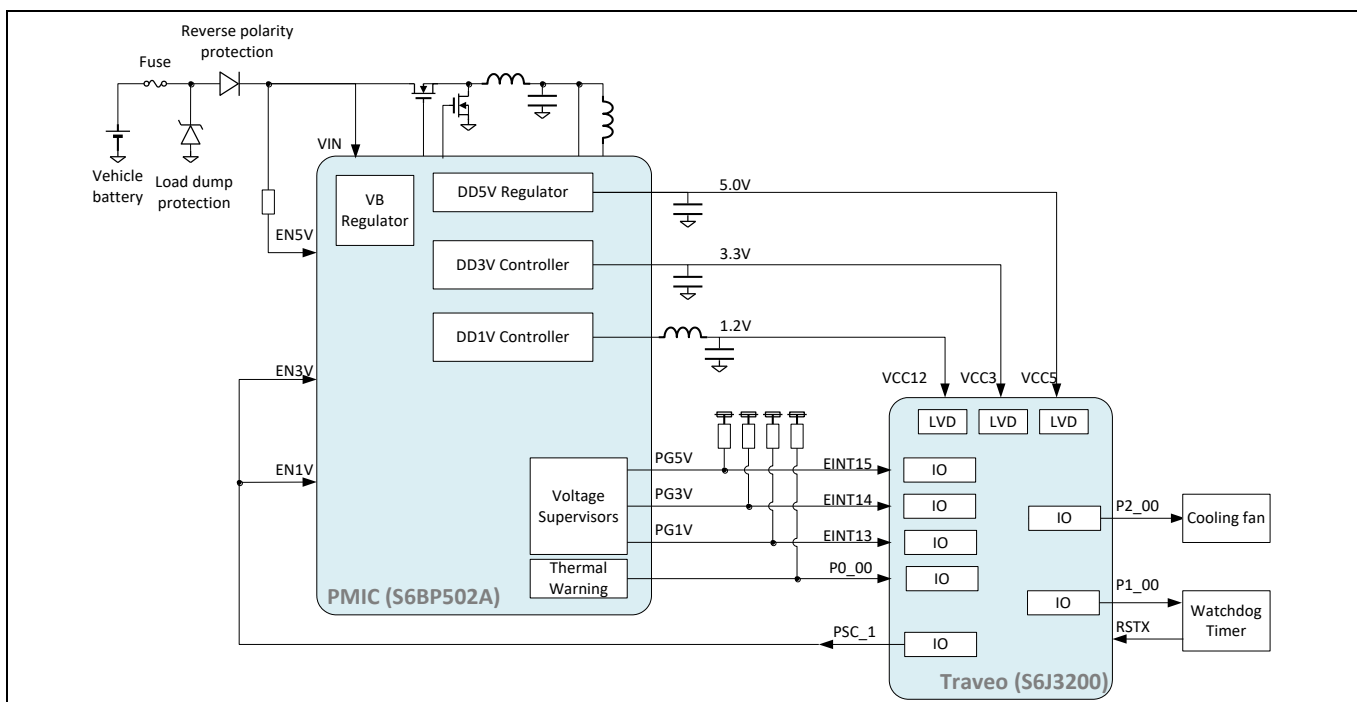
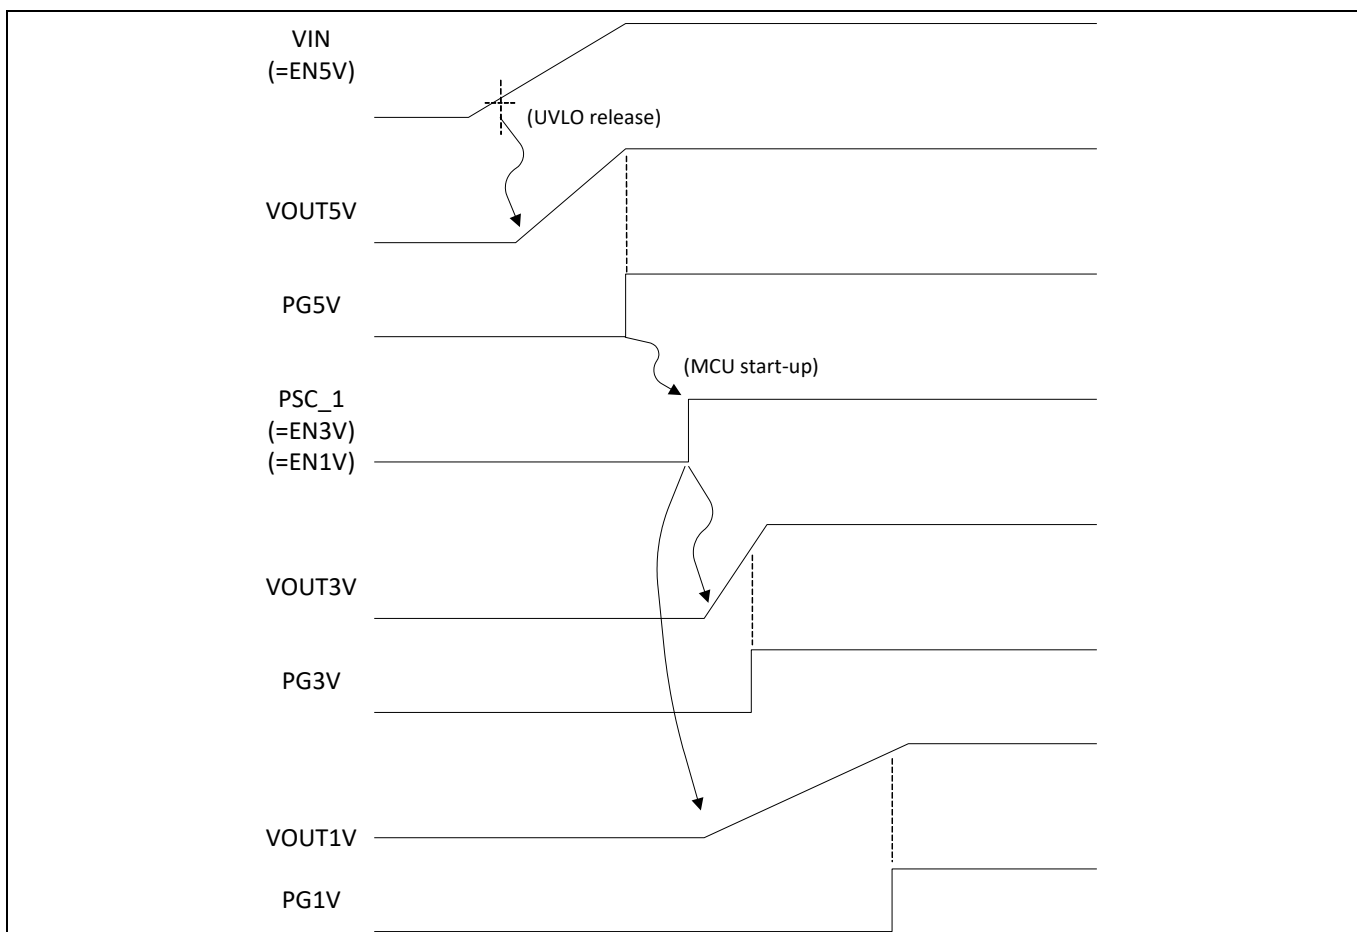

Figure 3 Implementation example with S6BP502A and Traveo S6J3200
Figure 4 Power-up sequence
An instrument cluster system is taken as an application example of interest. As illustrated in **Figure 1**, the instrument cluster comprises speedometer, gas gauge, tachometer, coolant temperature gauge, gear position indicator, telltales and a color TFT LCD. **Figure 2** depicts a block diagram of the system where the S6BP series PMIC and Traveo family MCU are used. An implementation example with S6BP502A and Traveo S6J3200 MCU is shown in **Figure 3**. Note that that the bypass capacitors for Traveo MCU are not illustrated; refer to the Technical Reference Manual of the Traveo family for the requirements for bypass capacitors.
Enable (EN) terminals should be controlled by PG or by the Traveo MCU to configure an appropriate power-up sequence for the system. Figure 4 illustrates the power-up sequence configured in Figure 3. When the input voltage (VIN) becomes higher than the UVLO threshold, the VOUT5V is being charged up gradually with the soft-start mechanism. The charge-up completion of VOUT5V is communicated to the Traveo MCU with the PG5V signal, starting the initialization. At the end of initialization, the Traveo MCU asserts PSC_1, which is connected to EN3V and EN1V, to power up VOUT3V and VOUT1V.
Because the Traveo MCU plays an important role for safety, its hang-up or malfunction must be detected and handled properly to bring the system into a SysSafe state. To detect failures of the Traveo MCU, the system must equip a watchdog timer independent of the Traveo MCU. In Figure 3, a dedicated watchdog timer is installed in the system, but you can use the one integrated in S6BP series PMICs. See Table 1 to find which device provides a watchdog timer.